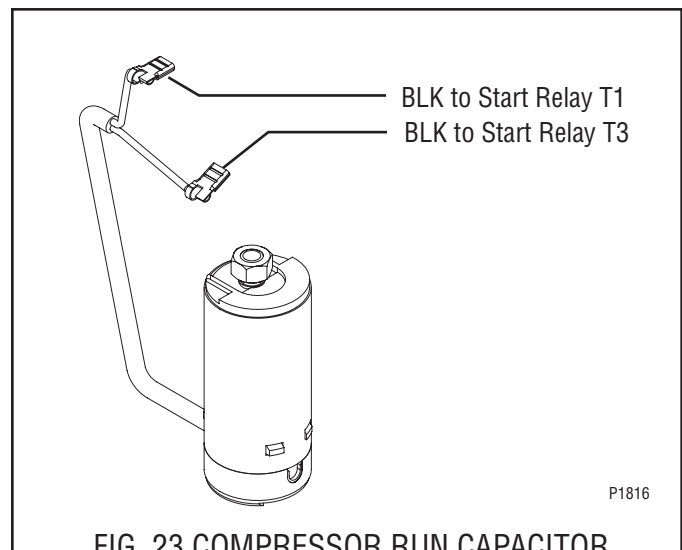

FIG. 23 COMPRESSOR RUN CAPACITOR TERMINALS
5. Refer to Fig. 23 and reconnect the wires.